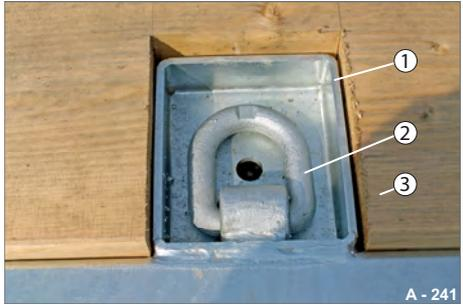

Fig. 145 Lashing ring folded in
- ▶ Raise the lashing ring (Fig. 145/2).